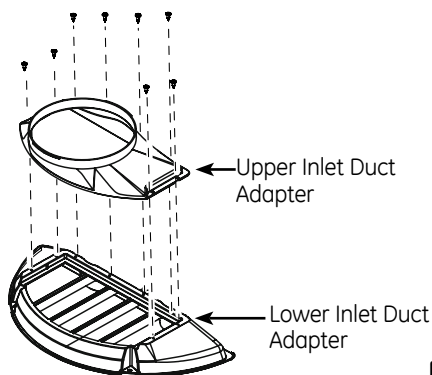

Figure 4
2. Assemble the upper inlet duct adapter to the lower inlet duct adapter by aligning the holes as shown in Figure 4 and installing the 8 assembly screws. These screws should be tightened by hand with a Phillips #2 screwdriver to prevent over-tightening.